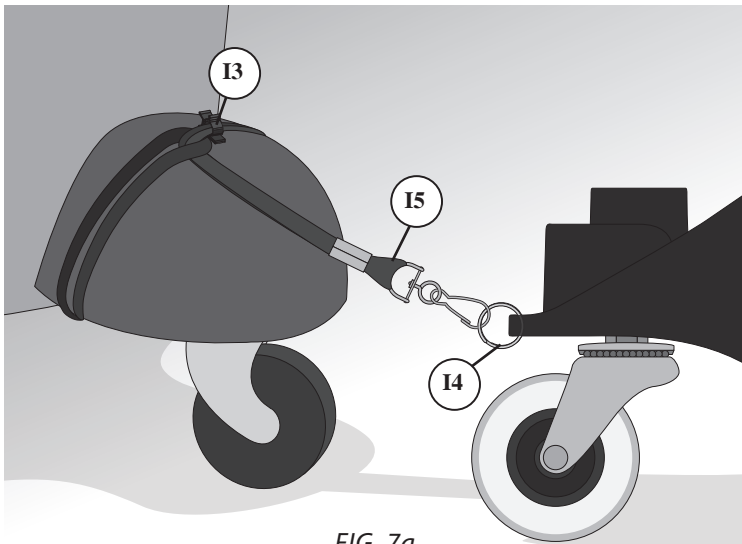

FIG. 7a
- a. Attach the Split Ring (I4) to the slot on the Caster Mount (G) and attach the Retainer Clip (I3) onto your vacuum's foot caster. Then loop the Lanyard (I5) around your vacuum's foot caster and through itself and the Retainer Clip. Finally, clip the Lanyard to the Split Ring. [FIG 7a]